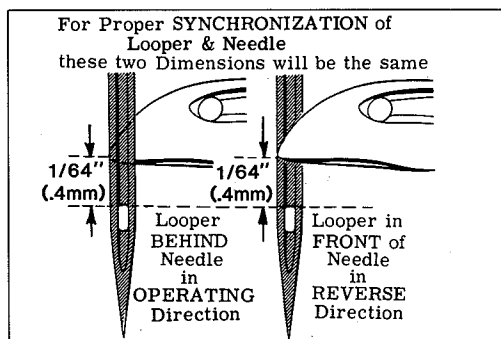
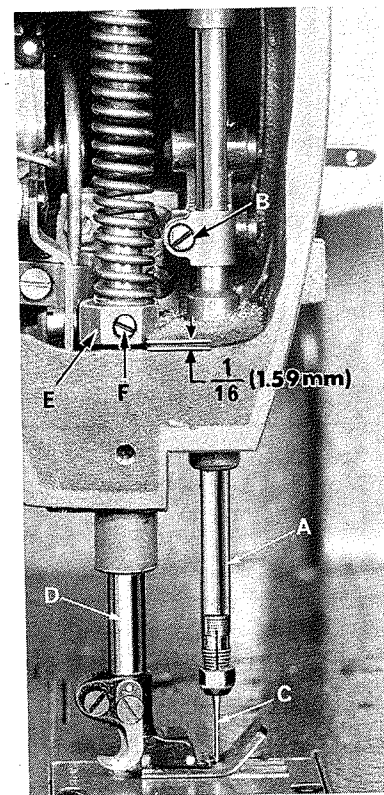

Fig. 4
Fig. 8
NOTE: The 1/64 inch (.4mm) dimension shown in Fig. 4 is for final setting of needle bar height.
The height of the needle (C, Fig. 8) is correct when the top of its eye is $\frac{1}{64}$ inch (.4mm) below the underside of the looper, with the looper point flush with the left side of the needle (See Fig. 4). If adjustment is necessary, loosen screw (B, Fig. 8) and move needle bar (A) up or down as required and retighten screw.